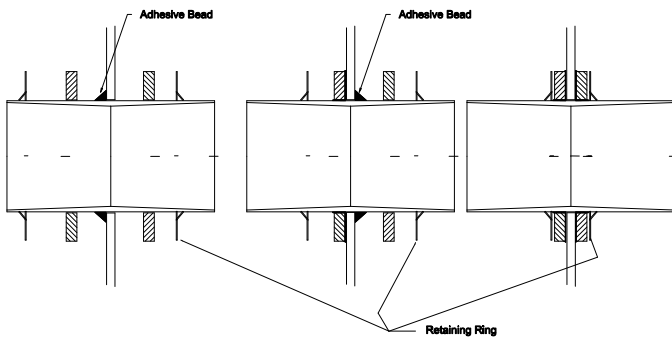

Figure 3
7. Apply a generous amount of the adhesive with filler to the sump wall, the cut edges of the entry hole, the ID of the alignment ring and as a bead on the coupling OD where it meets the sump wall (Figure 3). Adhesive must be at least 1/16" thick.